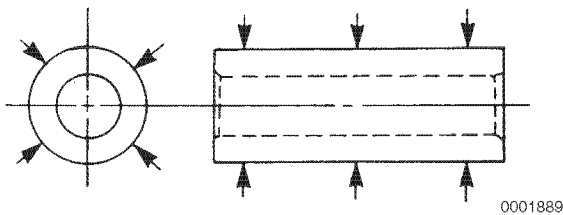

Figure 6-113
7. Measure the outside diameter of the wrist pin in three places and at 90° (**Figure 6-113**). See *Piston on page 6-16 for specifications*. Record the measurements.